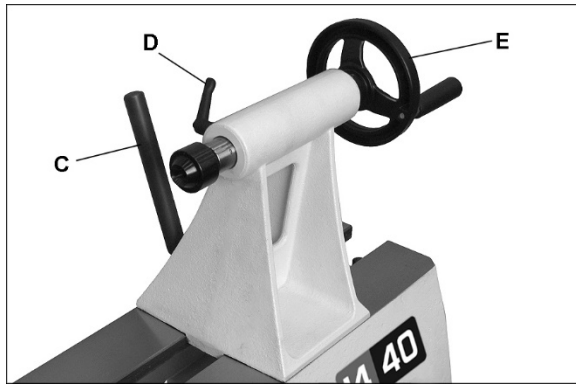

Figure 10
To slide tailstock, push locking handle (C, Figure 10) down toward the bed. Push locking handle upright to lock tailstock in position.
⚠WARNING Make sure tailstock is locked to bed (C, Figure 10) and quill is tightened (E) before turning a spindle on the lathe.